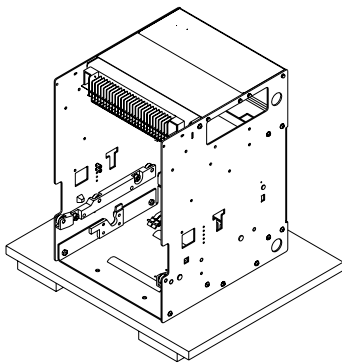

Fig. 2
- Position the cradle on a horizontal surface, not in direct contact with the floor, but on a suitable support surface (fig. 2)